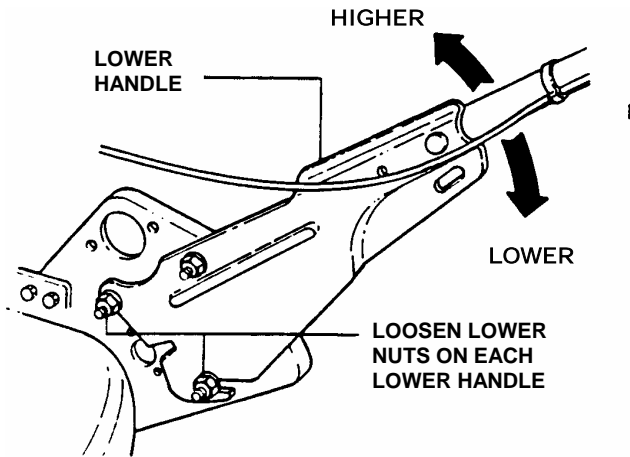

FIGURE 2.8
1. Loosen the lower nuts on each lower handle as shown in Figure 2.8.